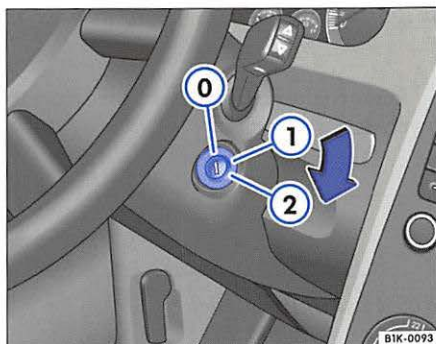

Fig. 76 Ignition key positions
In this position ⇒ fig. 76 the ignition is switched off, and the steering column is locked.
- Turn the ignition key to position ⇒page 93, fig. 76 ② to start the engine.
- Turn the ignition key to position ⇒page 93, fig. 76 ①. The glow plug warning light  lights up while the glow plugs are warming up.
- When the warning light goes out, turn the key to position ⇒page 93, fig. 76 ② to start the engine. Do not press the accelerator.
⇒page 93, fig. 76 ①.